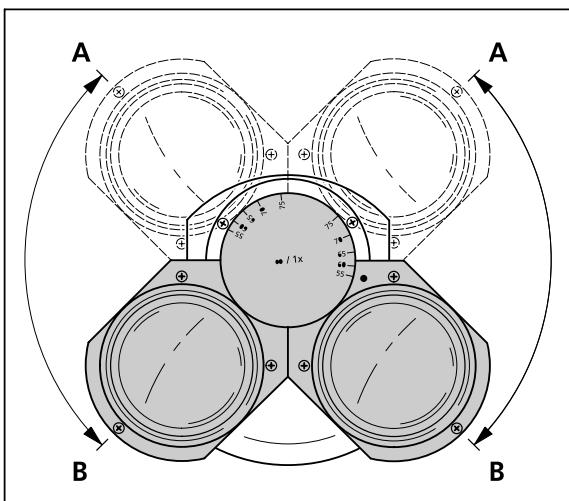

Fig. 4-33 Adjusting the viewing height on the binocular tube
- Variable viewing height by moving the eyepiece barrels up (Fig. 4-33/A) or down (Fig. 4-33/B).